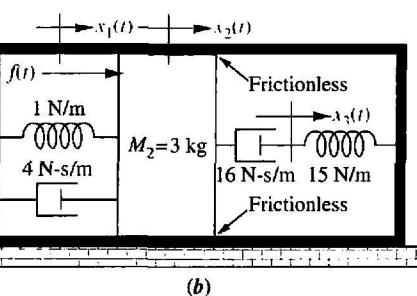

FIGURE P2.14
28. Find the transfer function, $X_3(s)/F(s)$, for each system shown in Figure P2.14. [Section: 2.5]